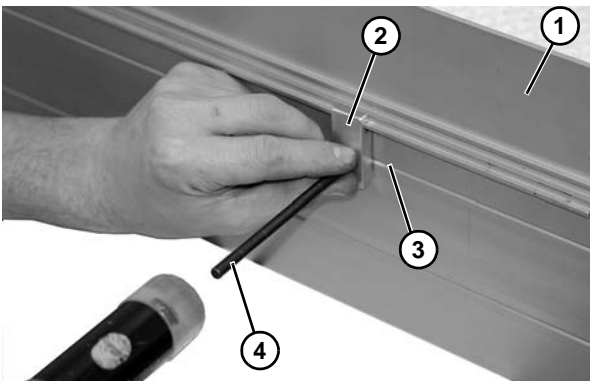

Figure 27
1. Locate guide (**Figure 27, item 1**) and retaining clip (**Figure 27, item 2**) and hold to side rail. Hole should line up with notch (**Figure 27, item 3**) in side rail. Mark the hole locations with a center punch (**Figure 27, item 4**) and remove the bracket.